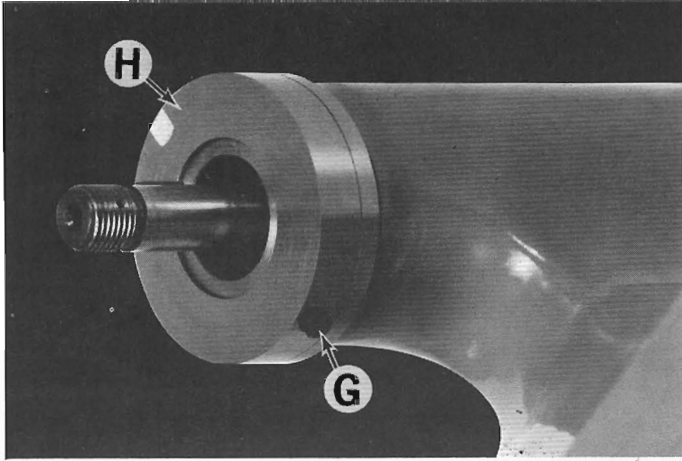

Figure 173 — Zero Ring for Tailstock
- (D). Loosen screw "G", Figure 173, and remove zero ring "H". Do not misplace plug under screw "G".
- (G). With nylon plug under screw "G", Figure 173, replace zero ring "H". Do not tighten screw "G".
- (J). Set clearance between dial "D", Figure 171, and zero ring "H", Figure 173, at .002" to .004" and tighten screw "G".